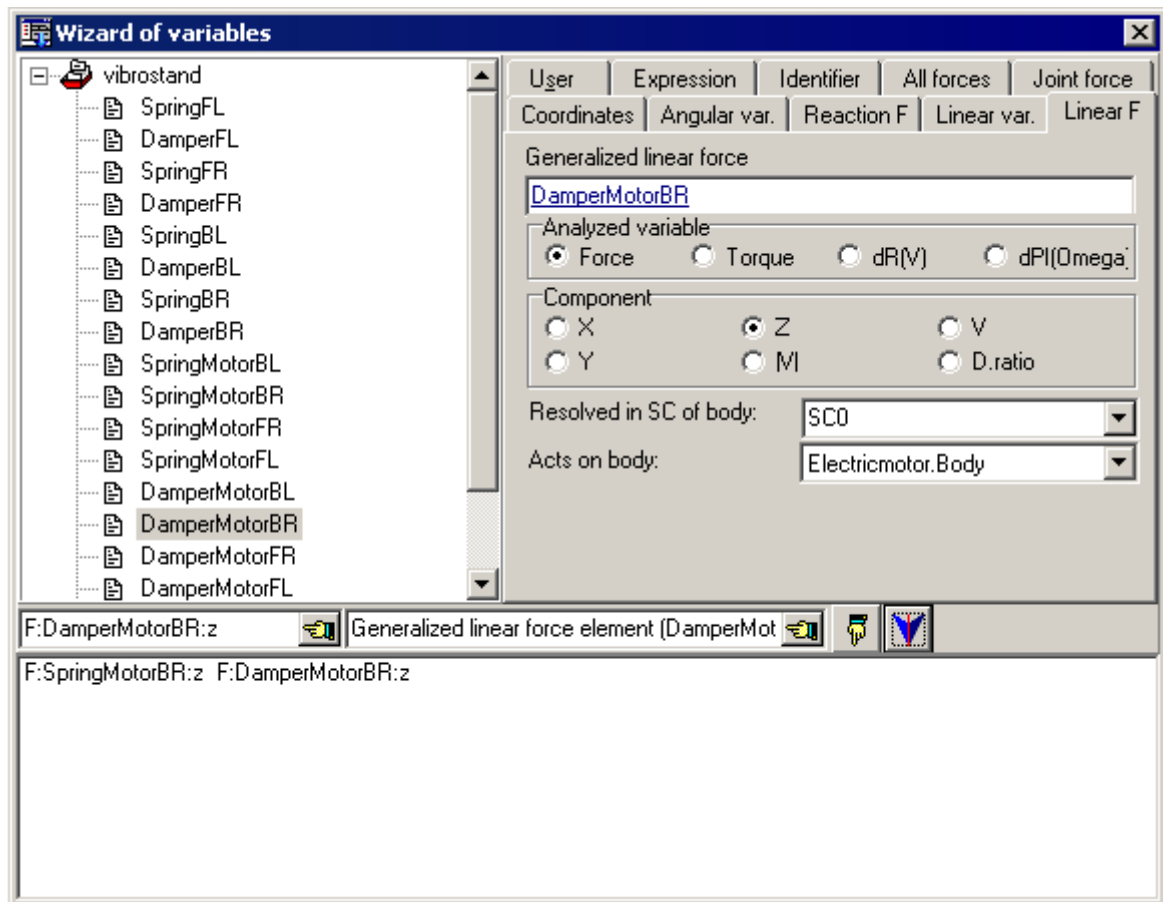

Figure 3.25
1. Open the **Wizard of variables** (the **Tools | Wizard of variables** menu command) and create variables for **Z** components of linear force elements **SpringMotorBR**, **DamperMotorBR**, Fig. 3.25.